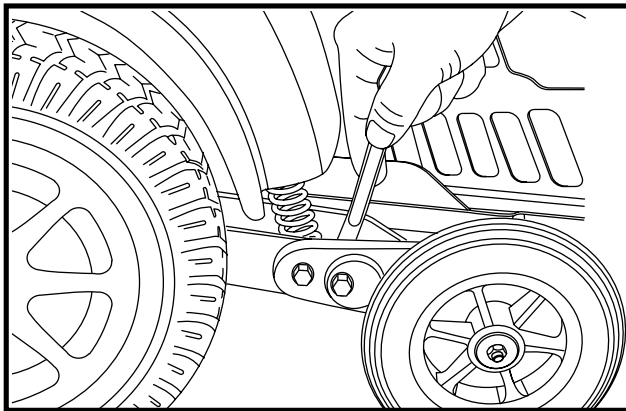

Figure 23. Anti-Tip Adjustment (Inner Locknut)
1. Place a wrench on the inner locknut of the anti-tip bracket located right after the shock strut. See figure 23.